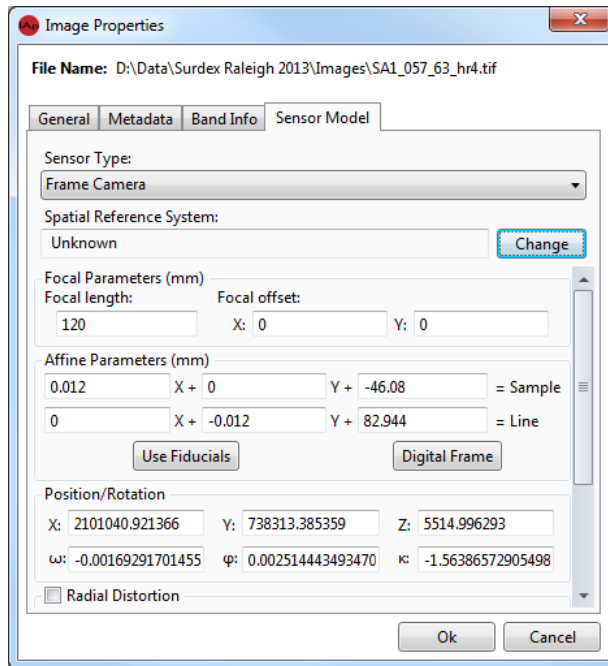

Figure 7. Frame camera sensor model configuration.
The Frame Camera sensor model consists of two primary sets of parameters, defining the interior orientation (IO) and exterior orientation (EO) parameters of the sensor as the image was acquired (Figure 7). For the internal parameters, the user must have knowledge of the camera's focal length and focal offset, and the internal affine representation of the sensor. If using a scanned film image, you will need to also have the sensor's fiducial locations. These are typically found in a camera calibration report. Digital back images do not have fiducials, and their affine parameters are easily computed from the image dimensions and knowledge of either the sensor size, or the pixel size on the sensor. In addition, radial distortion parameters can be provided. Exterior orientation parameters define the camera's position and orientation at the time of acquisition, and are often provided in a text file containing the EO parameters of all the images acquired during a single flight/project. Each of the parameters for the Frame Camera sensor model can be manually entered by the user.